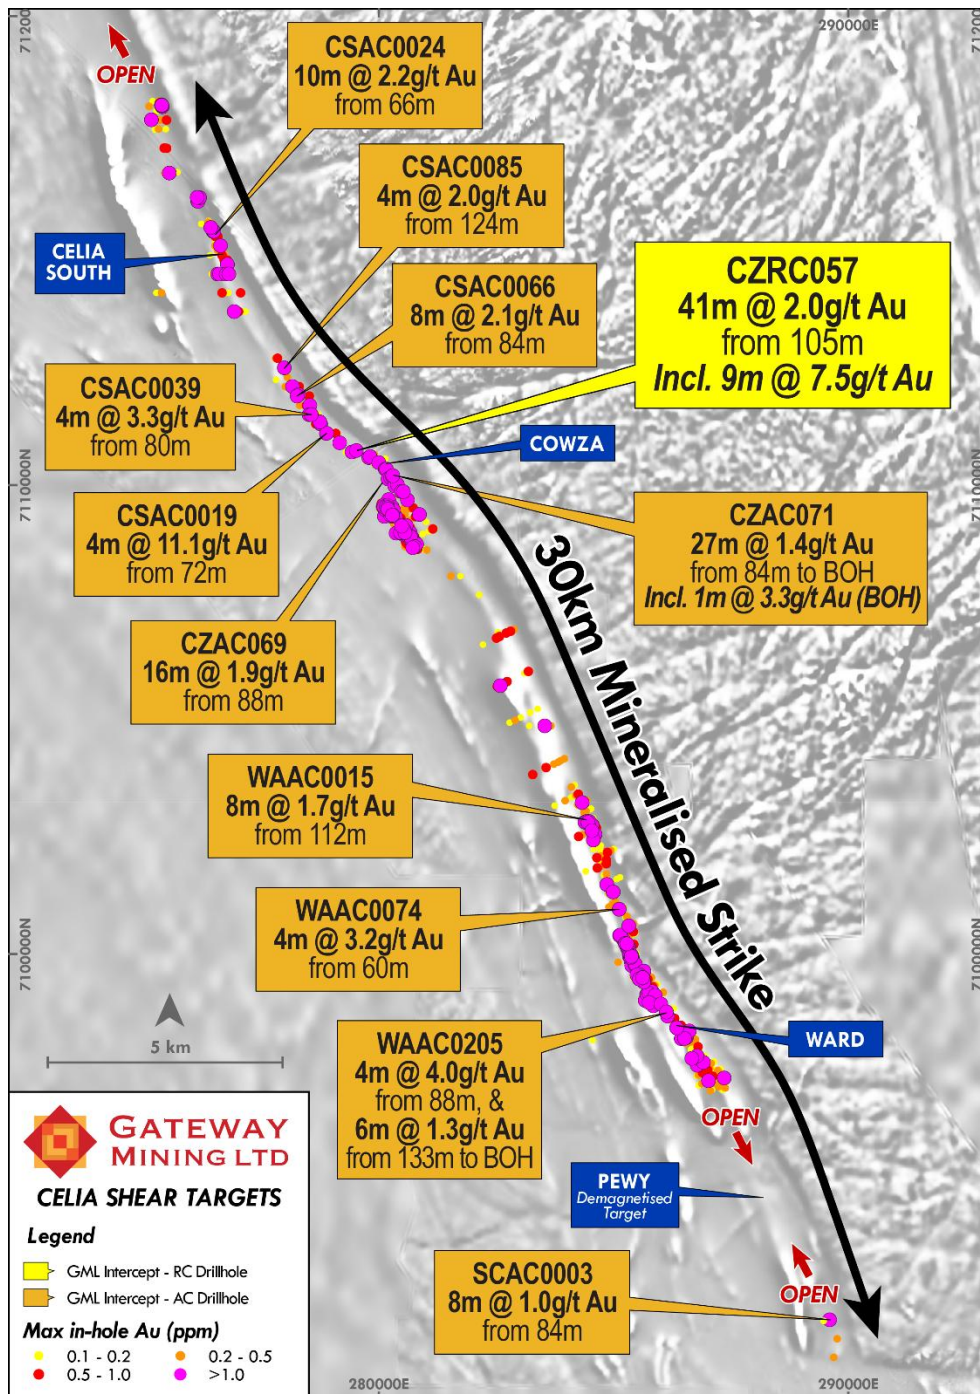

Figure 2: Key targets along the Cowza corridor, highlighting the untested Pewy target at the southern end.
- Pewy sits at the southern end of an emerging ~30km mineralised trend from Celia South (~1.5km) through Cowza (~4.5km) and Ward (~7km) into the untested Pewy (~3km) corridor (Figure 2).
Results returned encouraging gold mineralisation on the target horizon, with the northernmost drill line intersecting **8m @ 1.0g/t Au from 84m in SCAC0003** (Figure 2). Importantly, this result was returned immediately south of the main de-magnetised corridor and represents the strongest aircore result obtained within the Pewy area to date.
The section through the Celia Shear (Figures 2 and 3) places Pewy in district context. Repeated high-grade plunging lodes have now been defined at Celia South, Cowza and Ward over a combined mineralised strike of more than 13km. Pewy represents the next 3km of the same structural and lithological architecture, and is the only major demagnetised segment of that trend that has not yet been drilled.